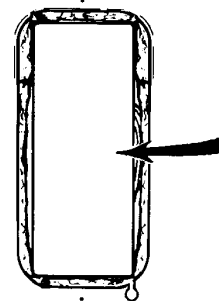

FIGURE 32.
17. Replace the insulation so that it covers the thermostat and element. See Figure 32.